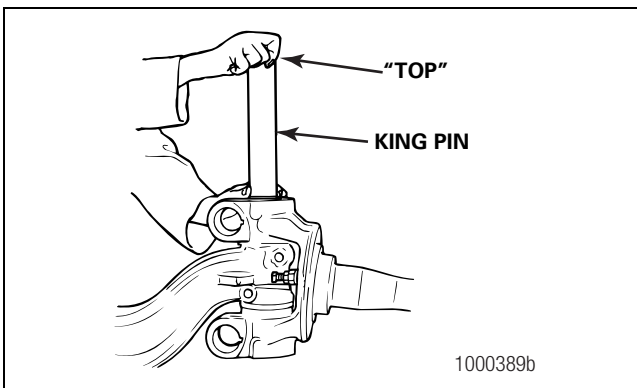

Figure 6.17
11. Verify that you can see the word "TOP," which is stamped on the king pin. Figure 6.17.